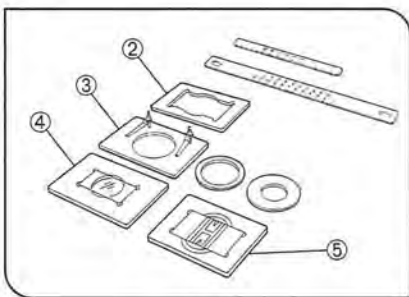

Fig. 15
- ⊙ To secure other vessels than microtiter plates, various optional holders are available. A Terasaki plate holder ② is available for holding Terasaki plates (72-well, or 60-well). When using this, it is necessary to replace the stage scales with those provided with the plate holder. Petri dish holder ③ is available for 35 mm, 54 mm and 65 mm diameter petri dishes, and a slide glass holder ④ is available for holding slide glass, and the IX2-BCTP* ⑤ is available for a blood cell test plate holder. (Fig. 15)
1. 96-well or 24-well microtiter plates can be held directly in place by widening the specimen holder ①.
- Terasaki plate holder ② (AB4488): For test plate, 35 mm diameter petri dish holder ④ or 65 mm diameter petri dish
- Slide glass holder ③ (AB4489): For slide glass or 54 mm petri dish
- ⊙ The IX2-BCTP blood cell test plate holder (Fig. 15 ⑤) can also be used.